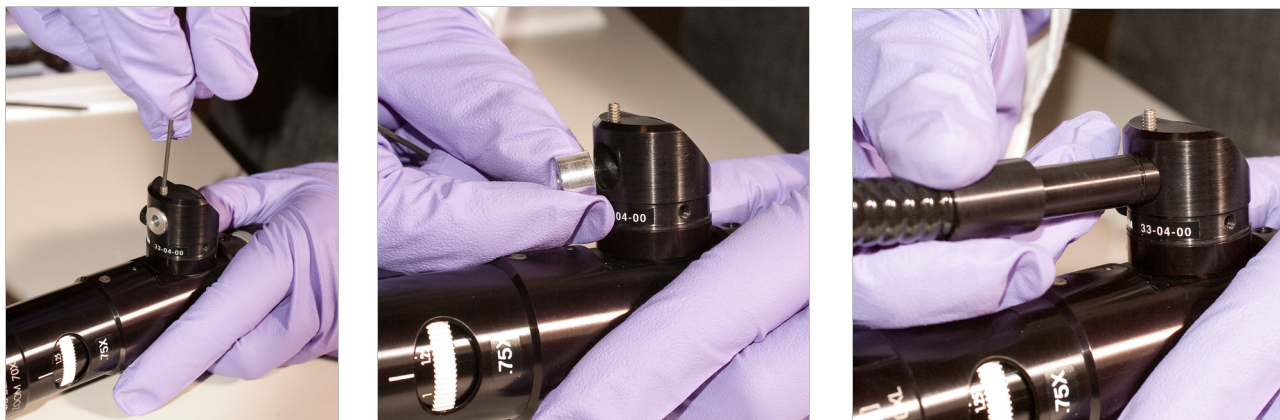

FIGURE 3-25 Left: Loosen the set screw on the fiber optic cable fitting; Middle: Remove protective fitting; Right: Insert the fiber optic cable
- a. Using the 0.05 in hex driver, loosen the set screw on the fiber optic cable fitting to the microscope (FIGURE 3-25).